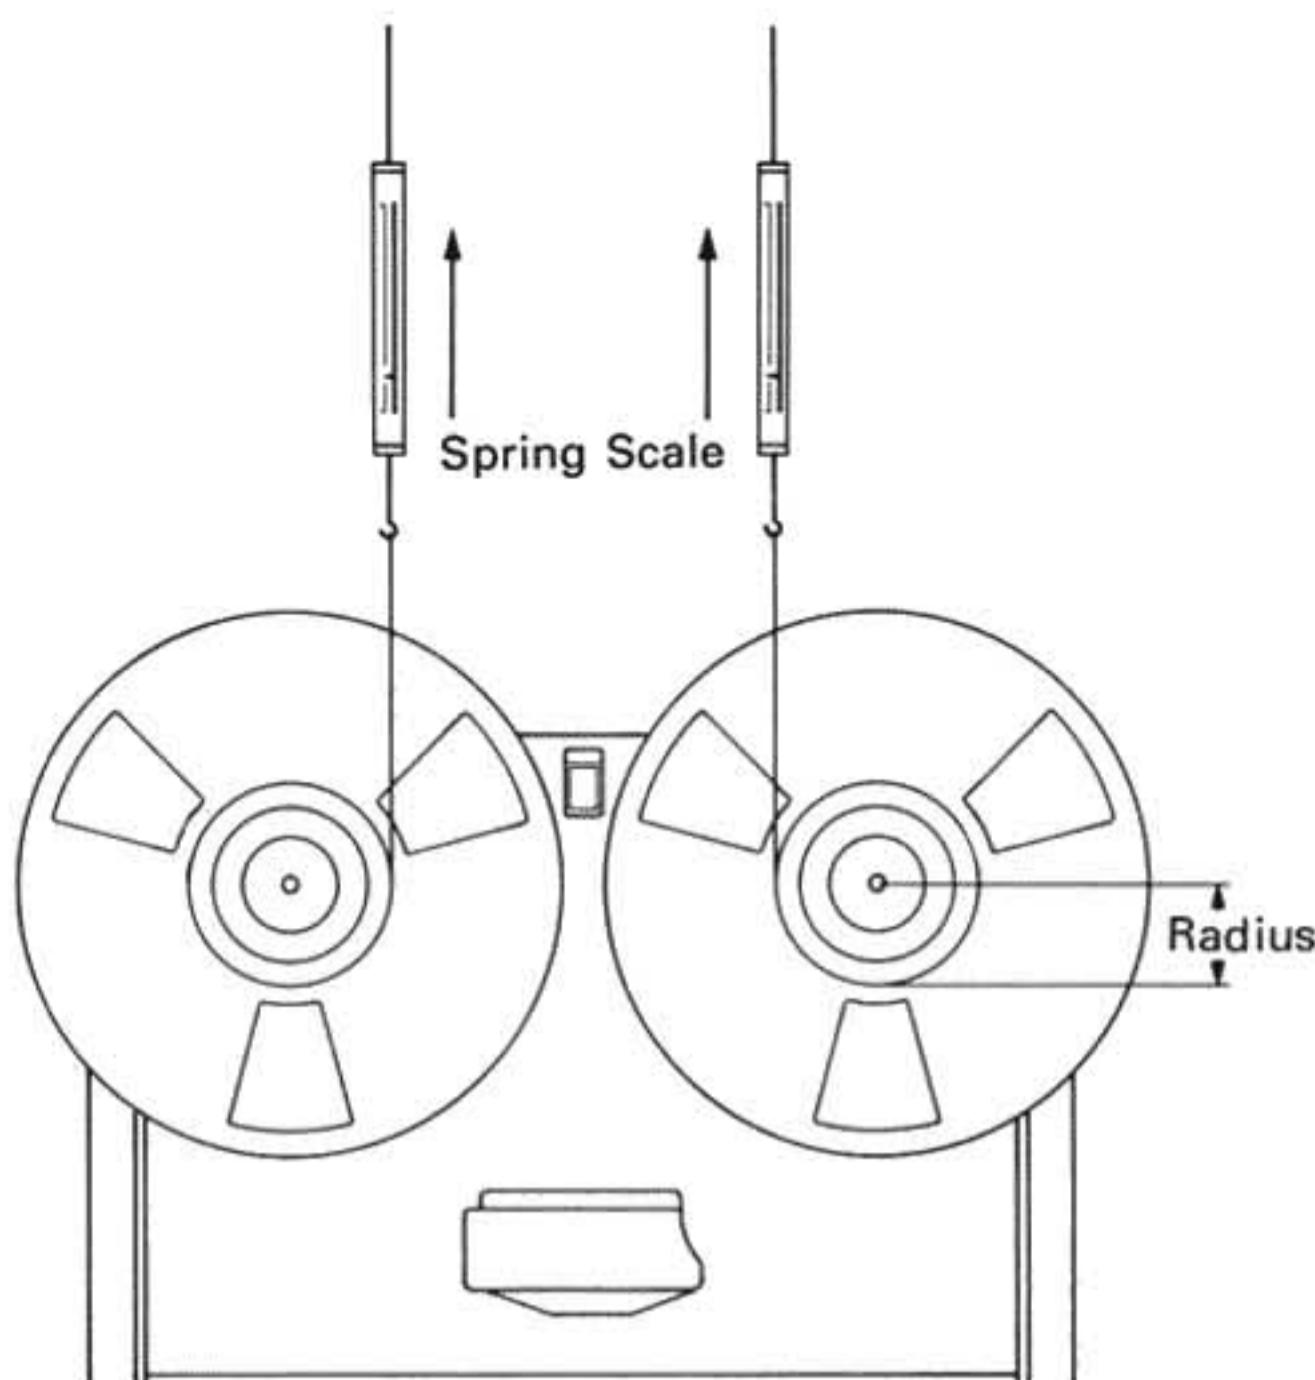

Figure 5-2. Brake Torque Measurement
2. Refer to Figure 5-2. Connect string to reel hub and wind clockwise several times around the reel hub as shown. Then, attach a spring scale to the string.